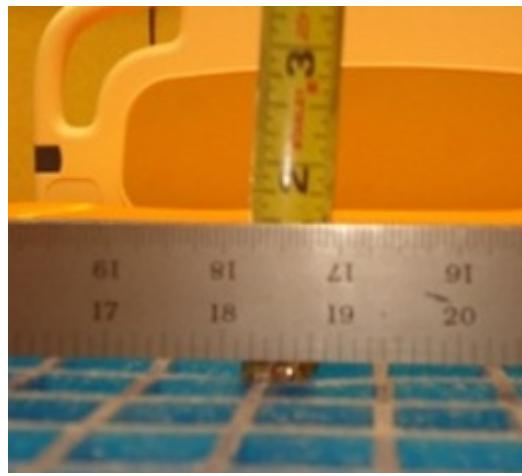

Figure 1-4: Measure maximum depth
6. Using a tape measure, measure the maximum depth (lowest point) from the bottom of the straight edge to the top of the foam (Figure 1-4 on page 1-17).